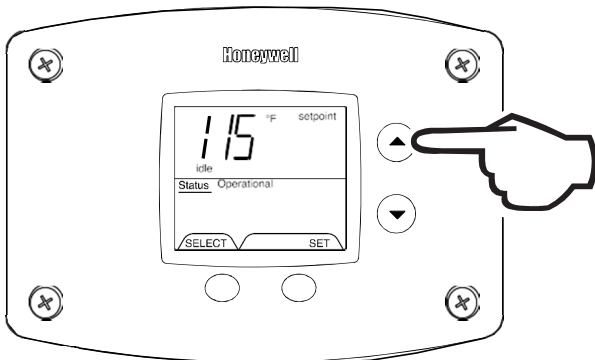

Figure 13
1. Depress and hold 'Temperature Up' button until desired setpoint temperature appears in the display (Figure 13).